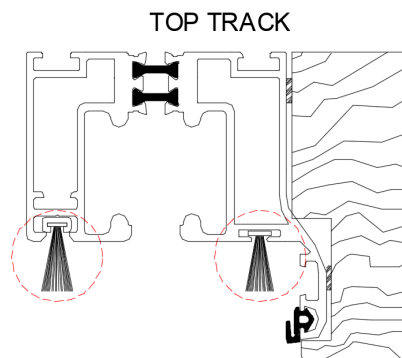

FIG 4.
- Using a 2.5mm Allen key loosen two silver setscrews on the side of all the rollers, as shown in FIG 4.
- Using a 5mm Allen key to adjust the roller 1/2" (12.5mm) for top track roller(s) and 5/8" (15.5mm) for the bottom track roller(s) using the adjustment screw, as shown in FIG 4.